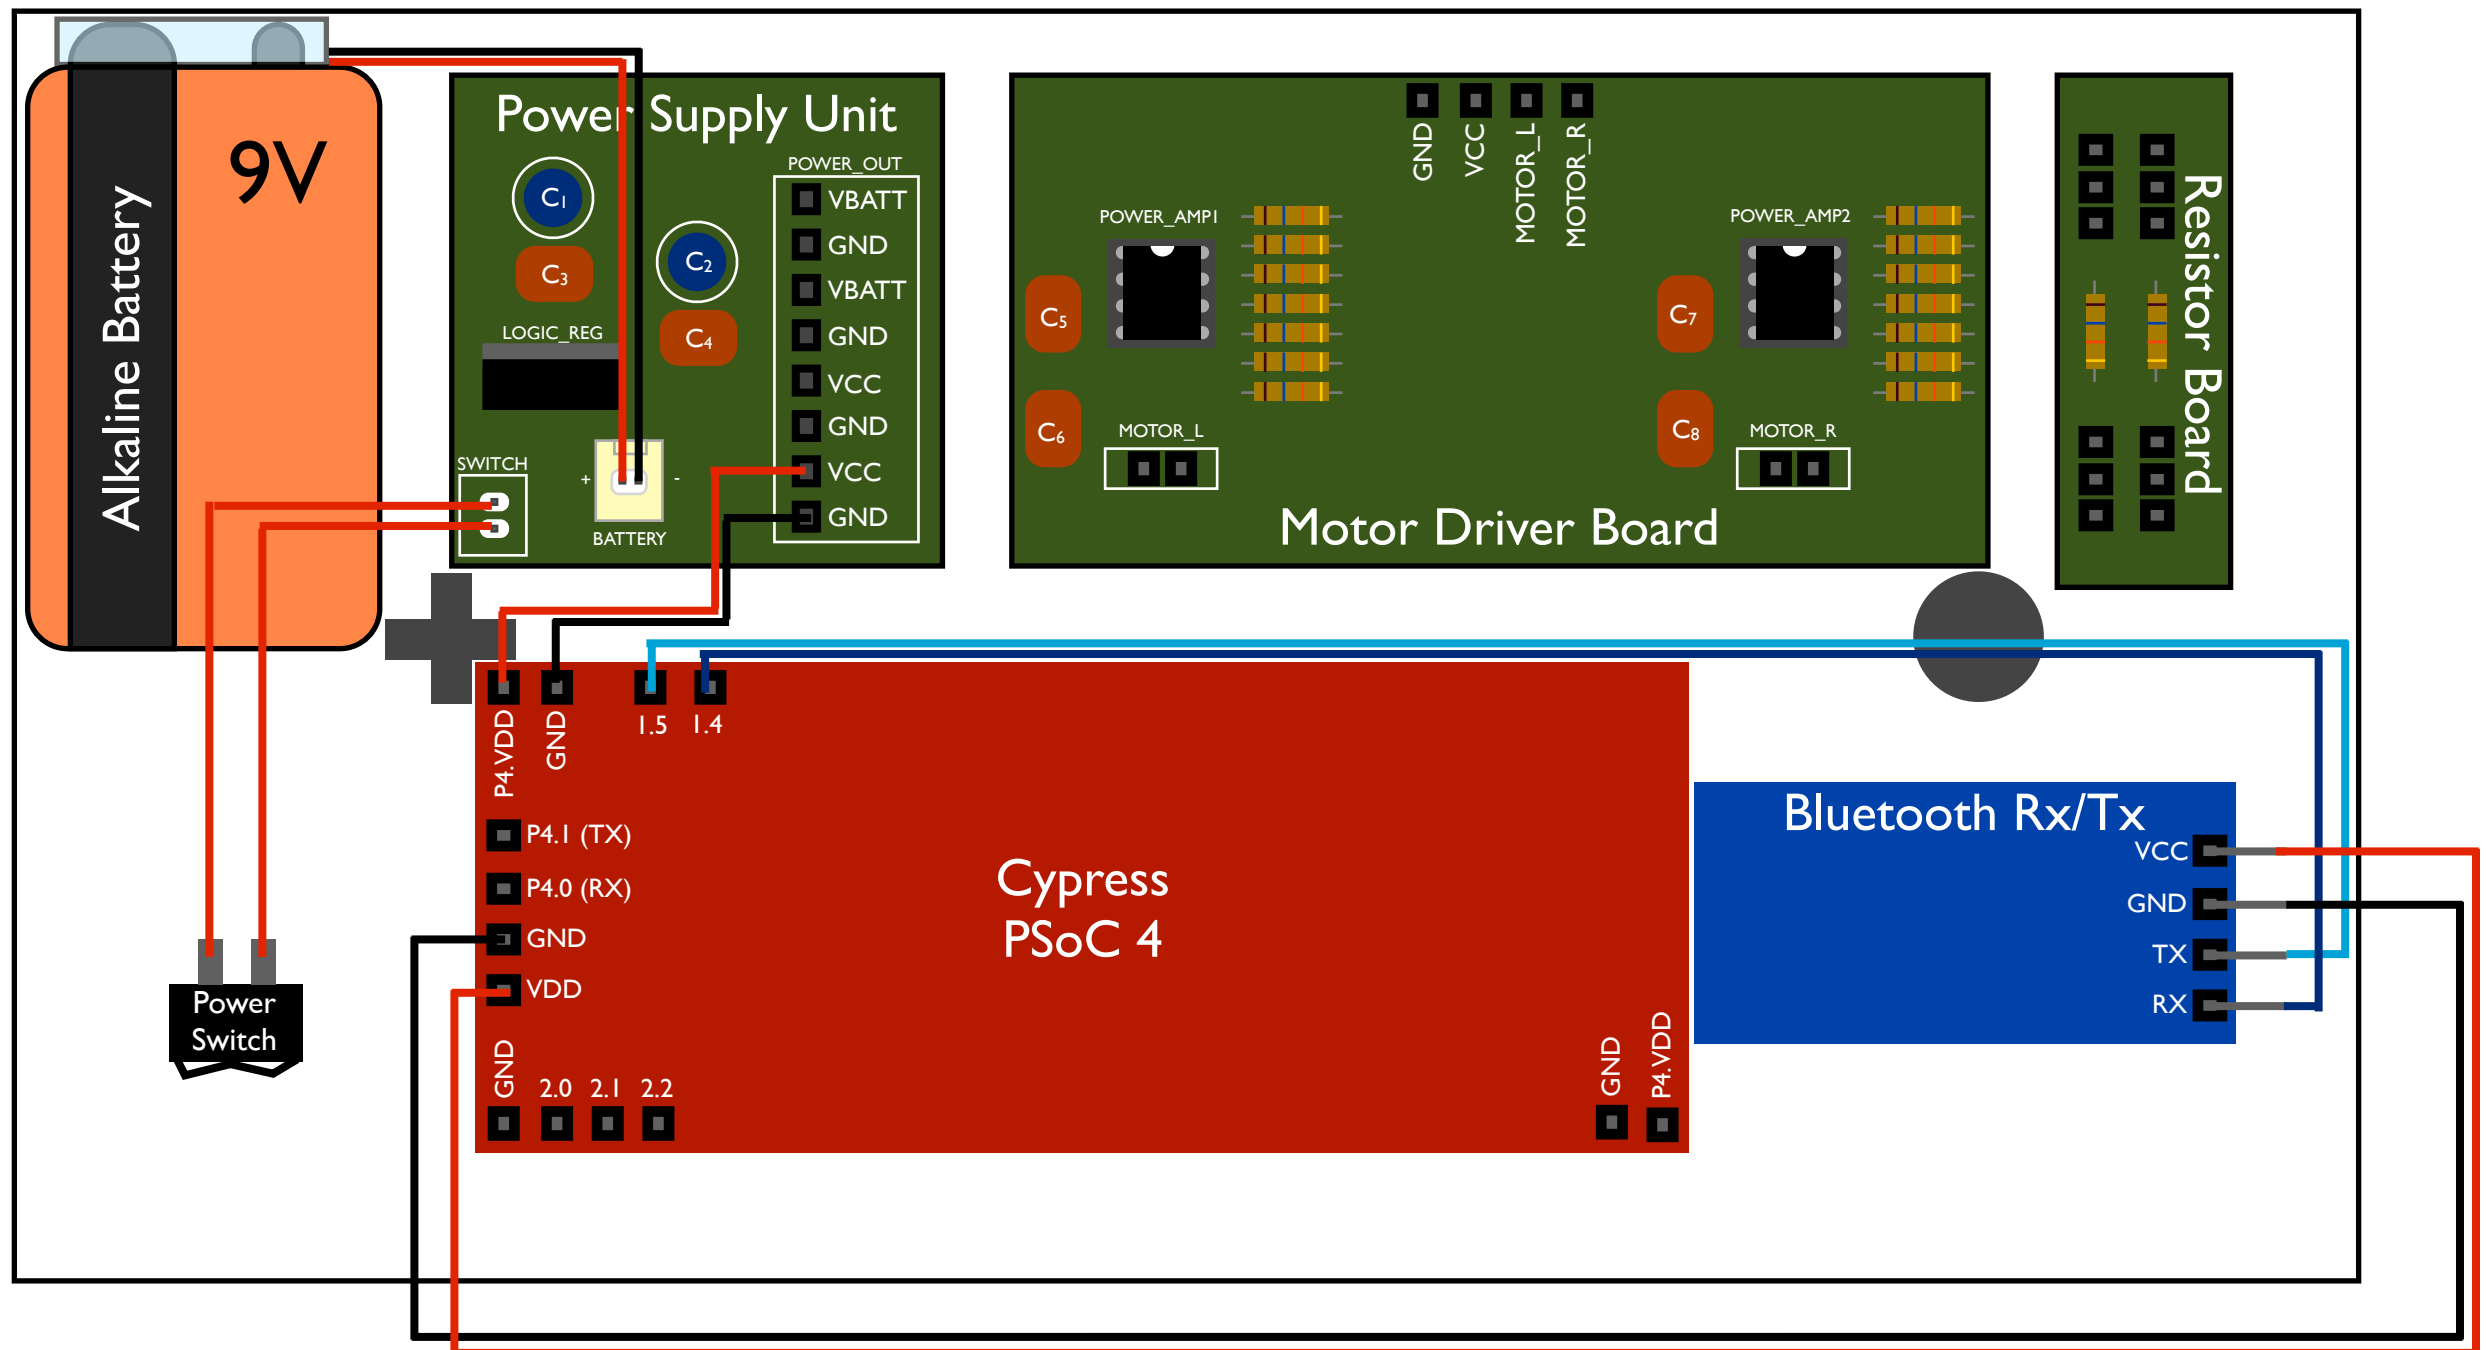

Figure 7. Testing connections between PSoC and Bluetooth module
7. Test steps 1-5: Does the Bluetooth Rx/Tx receive power? (Figure 7)